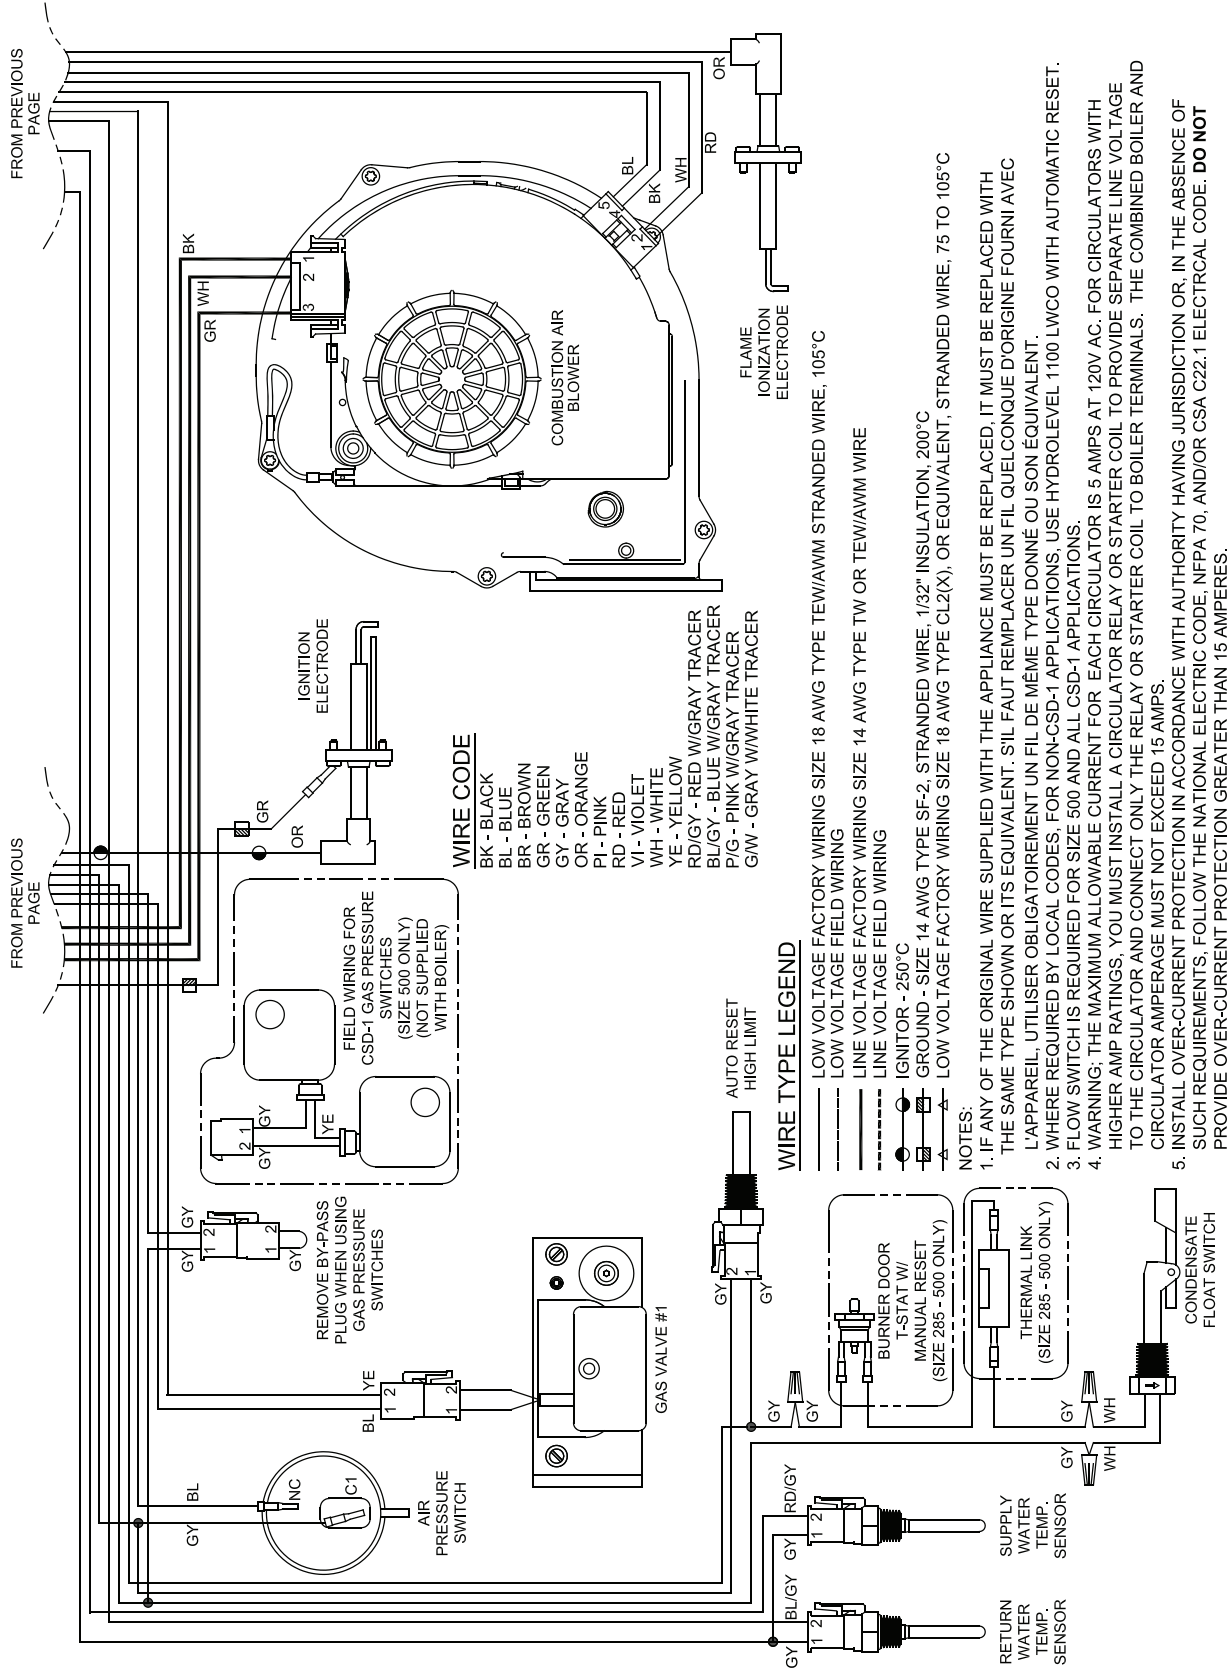

Figure 26: Wiring Connections Diagram
C. Refer to Figures 26 and 27 for details on the internal boiler wiring.
Line Voltage (120 VAC) Connections - see Figure 26.
Low Voltage (24 VAC) Connections - see Figure 26.
Alternately, the network can be wired together by simply wiring terminal J3, Modbus 2, terminals A, B and V- between each boiler. Refer to Figures 26 and 27 terminal J3 for wiring location.